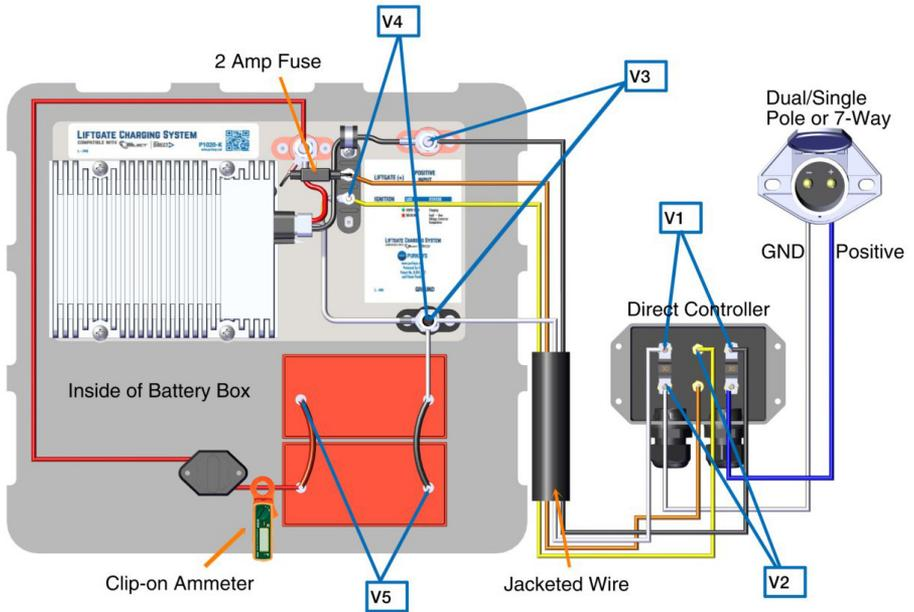

Figure 15
1. Look at the Source LED on the Direct Controller and ensure that it is Solid Green. If no, refer to the Stinger or Aux Diagnostics sections. If yes, measure the voltage at the DC/DC Converter Input (+) stud and Ground (-) Liftgate Battery (Fused) stud (see V1 on Figure 15). Voltage should be over 10.0 volts. If yes, go to step 2. If no, check 30 amp MIDI fuses for the stinger or aux.
2. With a voltmeter, measure the voltage at the ignition output (see V2 on Figure 15). Should be over 10.0 volts. If yes, skip to step 3. If no, replace Direct Controller.
3. With a voltmeter, measure the input and ignition voltages at the P1020-K Liftgate Charging System Plate Assembly (see V3 and V4 on Figure 15). Both should be over 10.0 volts. If no, repair or replace the wires between the Direct Controller and the P1020-K Liftgate Charging System Plate Assembly. If both voltages are over 10.0 volts, move to reference 10.
- a. Measure the voltage at the liftgate batteries (see V5 on Figure 15). If higher than 14.0 volts, the charging system is functioning properly.
- b. If the voltage at the liftgate batteries is below 14.0 volts, use a voltmeter to monitor the voltage at the liftgate batteries for 2–5 minutes (see V5 on Figure 15). If the voltage rises, the DC/DC converter is functioning properly; allow time for the batteries to charge.
- c. Using a clip-on ammeter, measure current flow (see clip-on ammeter on Figure 15). If above 10.0 amps, the system is working. Allow time for the liftgate batteries to charge.